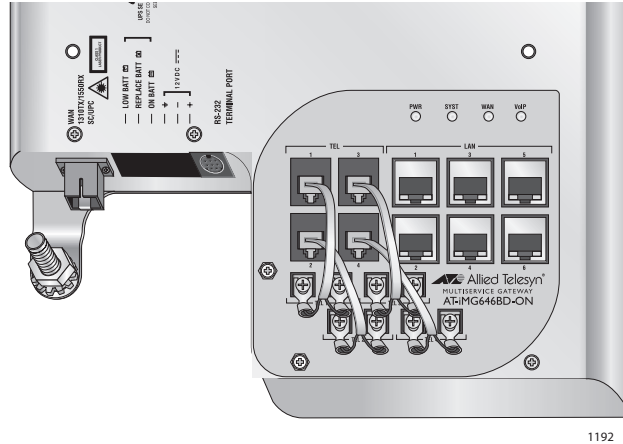

Figure 48. Securing the Grounding Stud
8. Secure the stud with its washer to the gateway grounding hole with a #10-32 Kepnut, as shown in Figure 48.